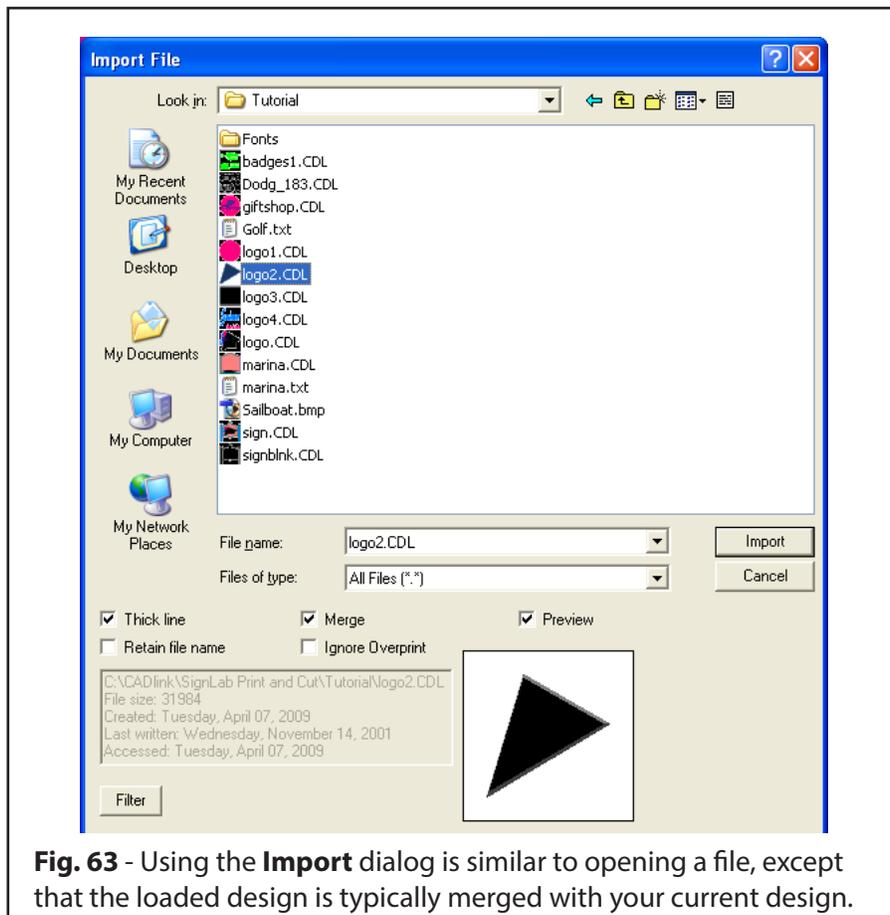

Fig. 63 - Using the **Import** dialog is similar to opening a file, except that the loaded design is typically merged with your current design.
2. In the **Import** dialog (Fig. 63), set the **Files of type** list to CADlink files (i.e. CDL files).
6. Repeat steps (1) through (5) for both the **logo3.cdl** and **logo4.cdl** files (both in the **Tutorial** directory).